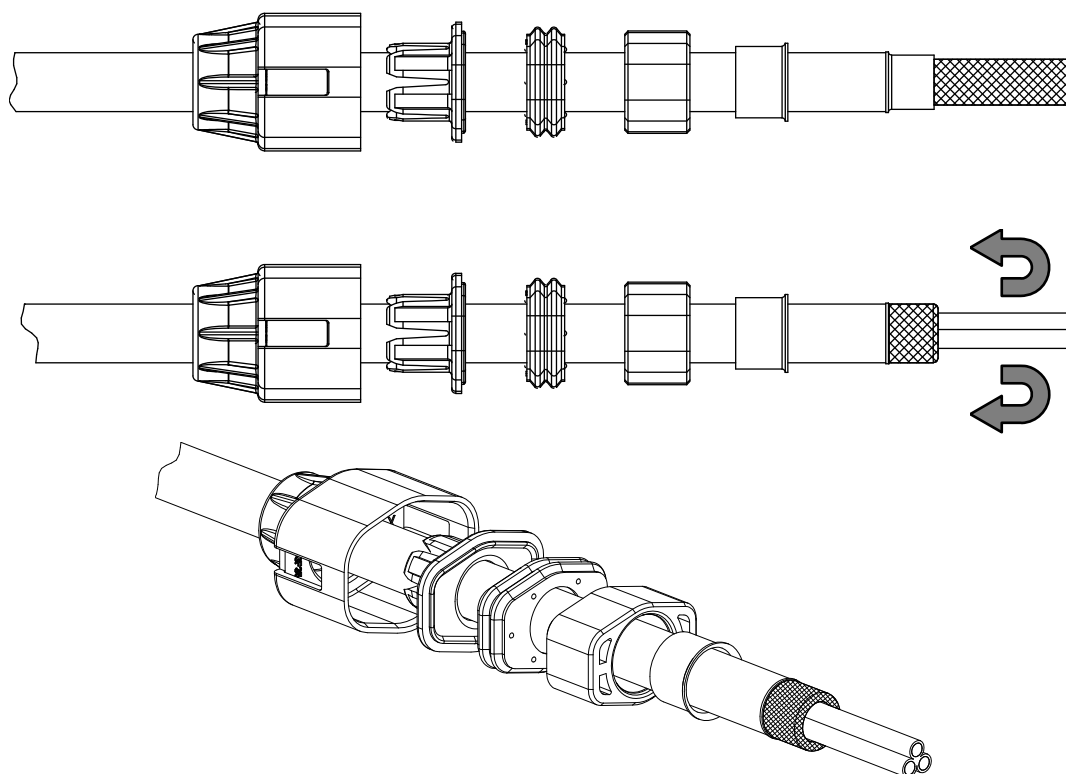

Figure 6
4. Fold the braided cable shield back over the inner ferrule and trim as shown in Figure 6. Remove filler and inner separator (if present).